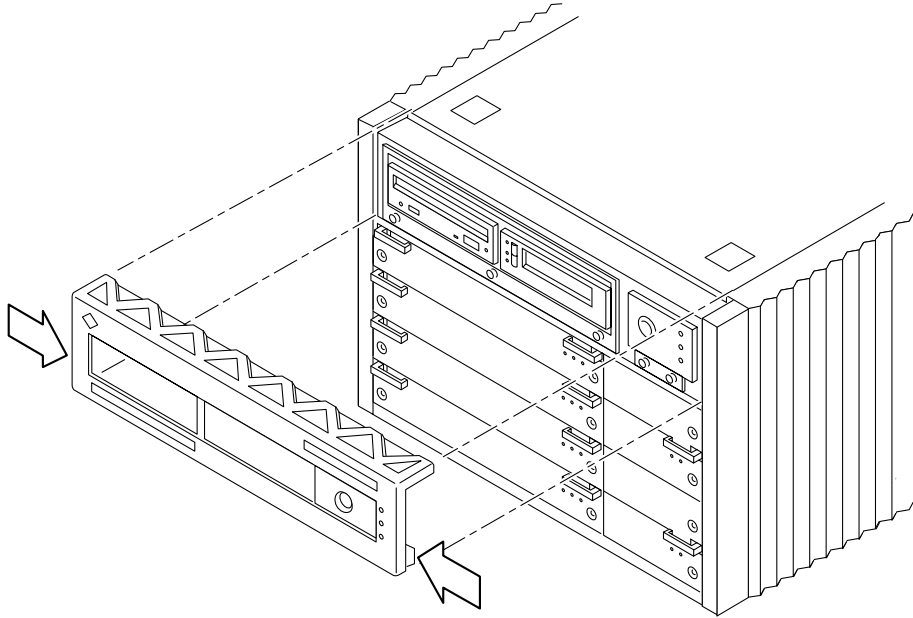

FIGURE E-21 Removing the Top Bezel
Set the bezel aside (FIGURE E-21).
3. Tilt the top bezel at a 45° angle and insert the lip of the bezel under the top of the enclosure (FIGURE E-21).